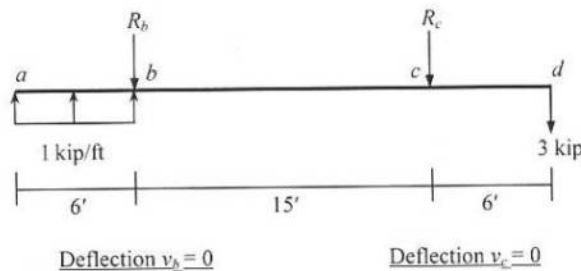

Fig. 6
8. For the beam shown in Fig. 6, use *Singularity Functions* to calculate the vertical deflection at a and d if the deflection at both b and c is zero [Given: $EI = \text{constant} = 80 \times 10^3 \text{ k-ft}^2$].